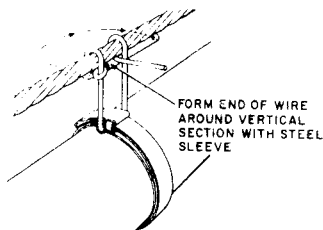

Fig. 18—Forming Wire Around the Vertical Section
- (3) Complete the installation by wrapping the wire around the vertical section as shown in Fig. 18 and 19.